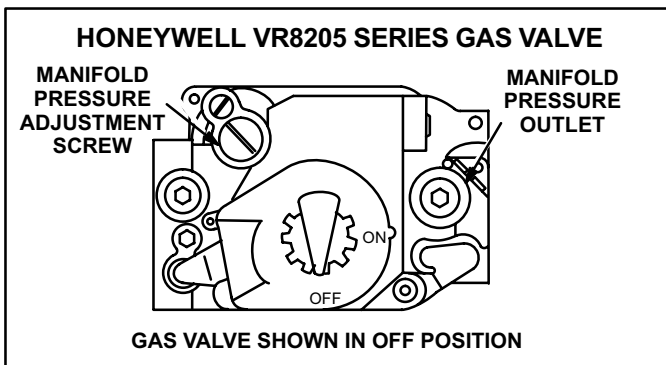

FIGURE 17
- 6 - *Honeywell VR8205 Gas Valve with On/Off Switch - Move gas valve switch to **OFF position**. Do not force. See figure 17.*
- 8 - *Honeywell VR8205 Gas Valve with On/Off Switch - Move gas valve switch to **ON position**. Do not force. See figure 17.*
- 4 - *Honeywell VR8205 Gas Valve with On/Off Switch - Move gas valve switch to **OFF position**. Do not force. See figure 17.*